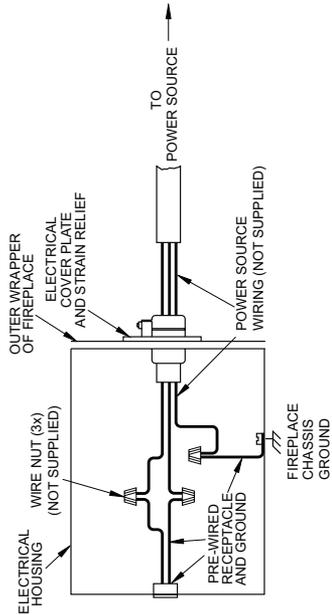

Figure 7 - Fan Kit Wiring Diagram
4. Place all wiring connections into electric housing as shown in Figure 7.